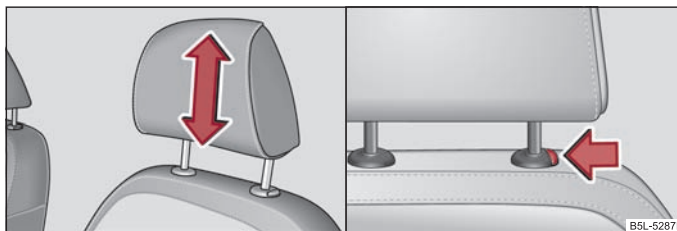

Fig. 60 Head restraint: Adjusting/pulling out
- Grasp the side of the head restraint with both hands and push it in upward direction as desired ⇒ fig. 60 - left.
- Move the head restraint downwards if required by pressing and holding the safety button with one hand ⇒ fig. 60 - right and by pressing with the other hand the head restraint downwards.
- Press the locking button in the direction of arrow ⇒ fig. 60 - right and pull the head restraint out.